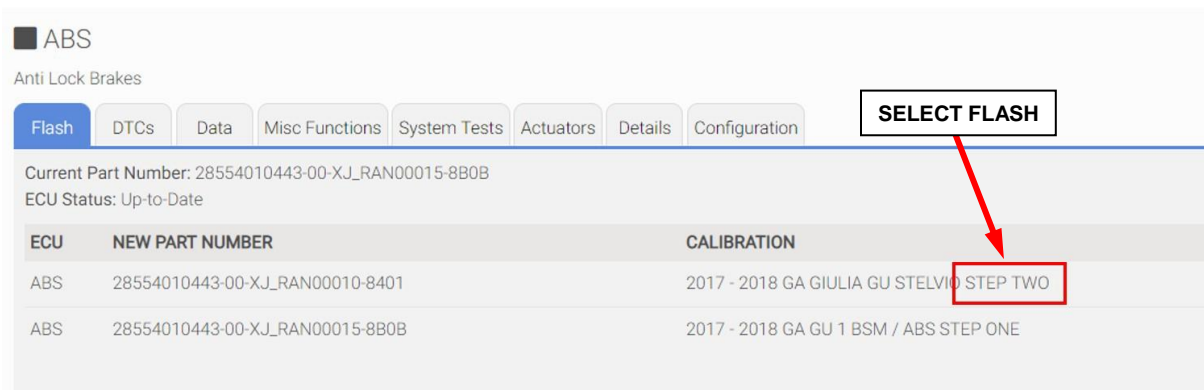

Figure 6 – Second Flash ABS / BSM “STEP TWO”
- 20. From the ABS “**Flash**” tab, select the ABS flash “**STEP TWO**” and proceed with the second reprogramming procedure (Figure 6).